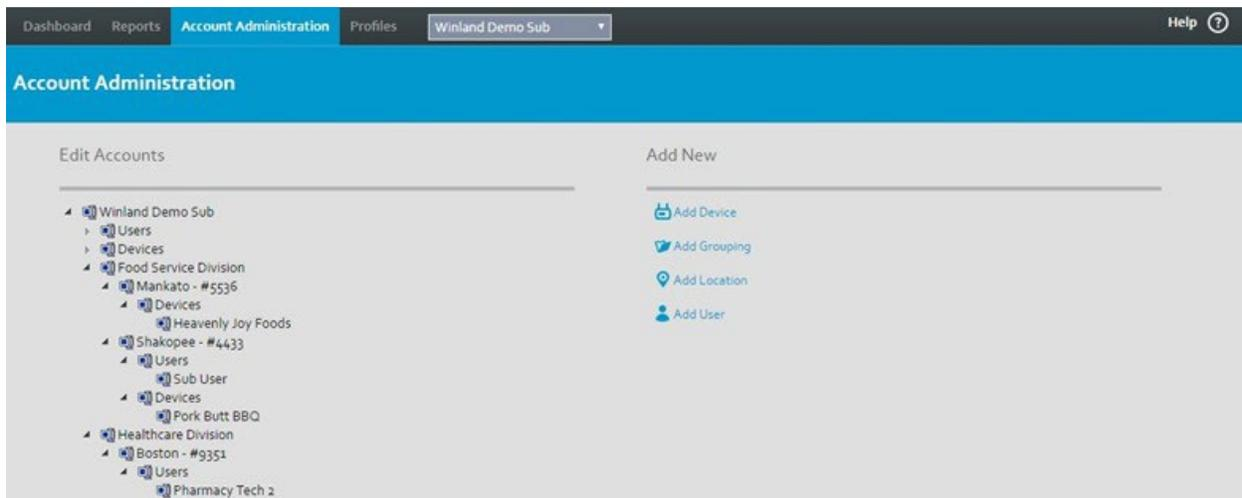

Figure 4-6 Account Administration - Edit Accounts
- To manage users, devices, and sensors for a specific customer, click the *customer's name* in the **Choose a Customer** section. From the account tree in the **Edit Accounts** section (Figure 4-6), you can manage users, devices, locations, and groupings. In the **Add New** section, you can add new devices, groupings, locations, and users.